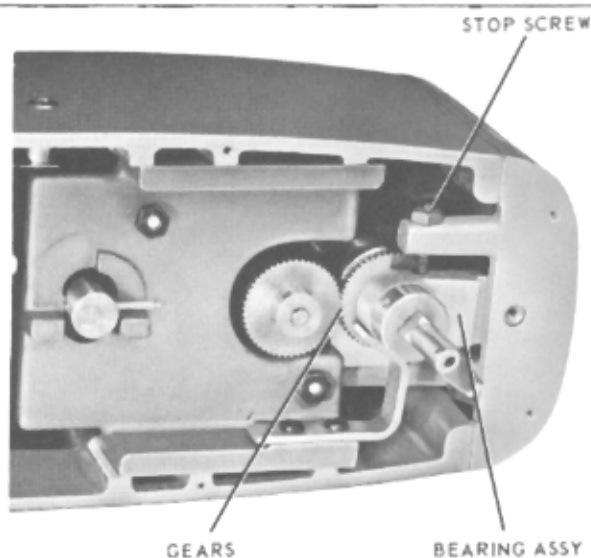

FIGURE 33
c. With the GEARS, figure 33, engaged, adjust the STOP SCREW so there is about a .0156-inch (three thicknesses of film) clearance between the screw and the BEARING ASSEMBLY.